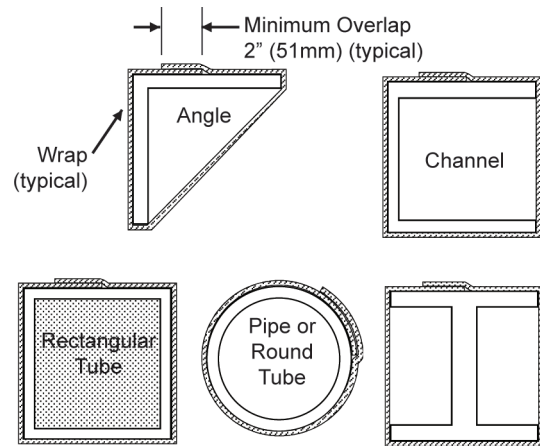

Figure 3-17. Wrap on Various Shapes.
1. See Figure 3-17. Using a flexible tape measure, measure and record the wrap width required. allowing for a minimum 2 in (51mm) overlap.
2. See Figures 3-17 ad 3-18. Lay the wrap on a flat surface. Mark and cut it at the distance from Step 1.
5. Position the wrap, starting at the bottom of the brace. Wrap it around the brace, overlapping the ends as shown in Figure 3-17. Fasten the wrap to the brace with four tie wraps.